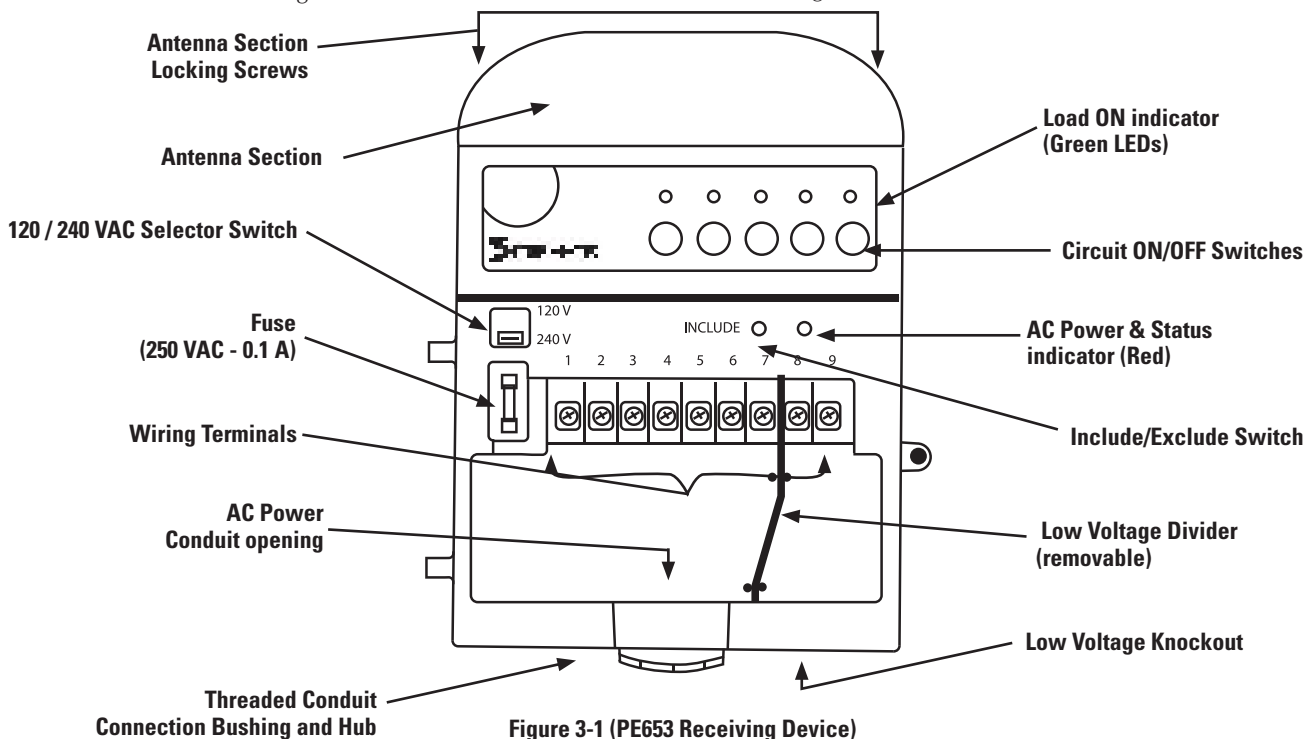

Figure 3-1 (PE653 Receiving Device)
**Terminals 8 & 9 can be used for low voltage provided the Low Voltage Divider is used to separate the Low Voltage conductors from Line Voltage conductors. Low voltage conductors must exit the cabinet through a separate opening. (See Figure 3-1)**